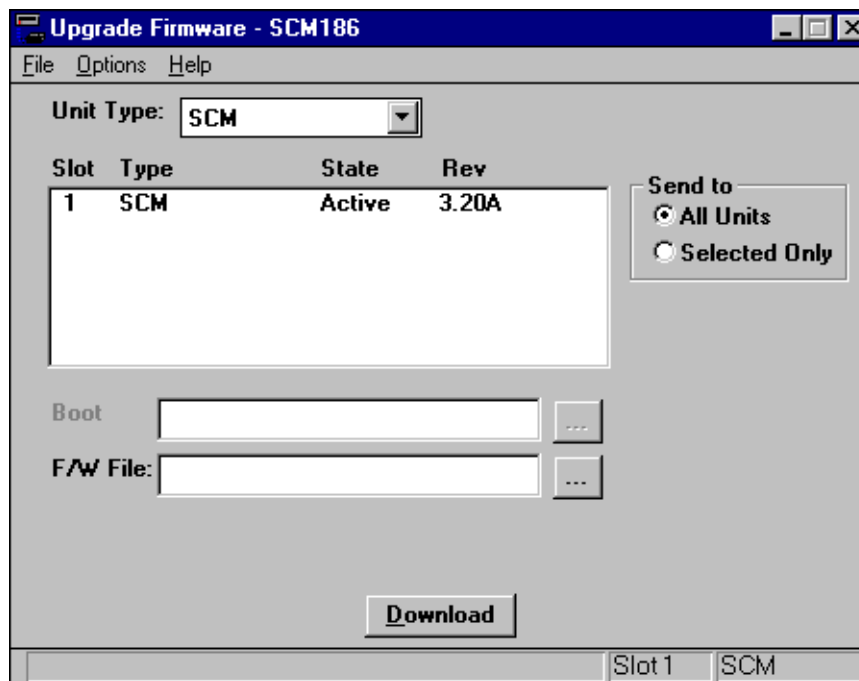

Figure 6-4 Upgrade Firmware Window
- From the Administer menu select the Upgrade Firmware option. See *Figure 6-4*.